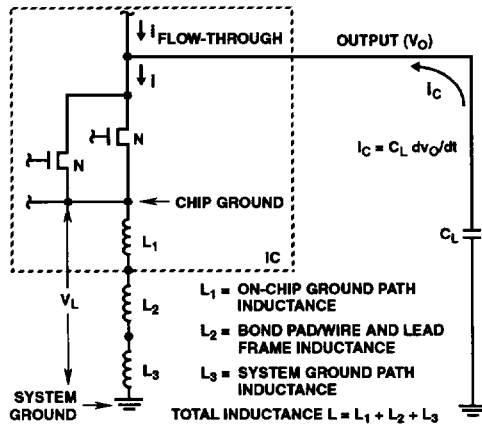

FIGURE 12. INDUCTANCES AND TRANSIENT CURRENTS RELATED TO GROUND BOUNCE
Figure 12 shows the case of an FCT output switching from high to low. Transient current i flows through the total intrinsic inductance to system ground, causing a peak voltage differential (V_{LMAX}) between the on-chip ground and the system ground.
1. Layout techniques are used to reduce on-chip inductance in the V_{CC} and ground paths, especially for the segments that are common to all outputs. (See L_1 in Figure 12).
2. Multiple bond-pads and bond-wires are used for V_{CC} and GND to reduce the inductance, in those paths, between the chip and the lead. (See L_2 in Figure 12).